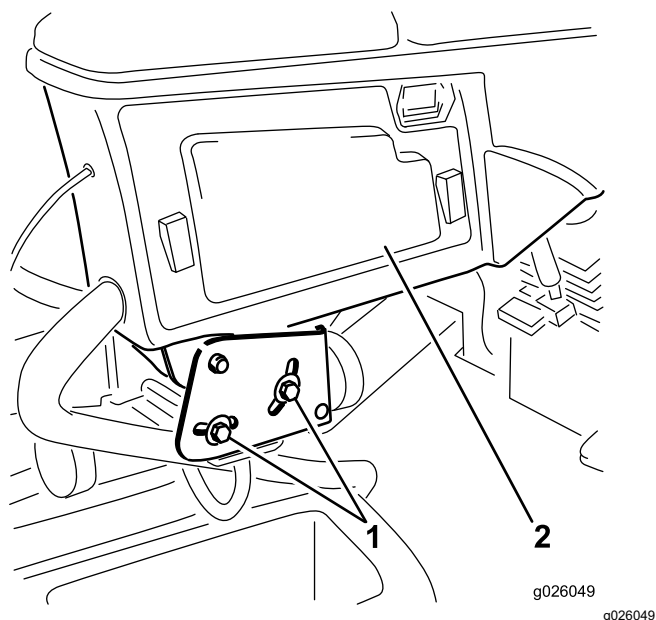

Figure 1
4. Remove the 2 adjusting bolts securing the control arm to the seat mount (Figure 1). Carefully set the control arm aside.
5. Install the control arm with the 2 control arm adjusting bolts previously removed (Figure 1). Adjust as desired.
6. Install the access panel to the control arm (Figure 1).